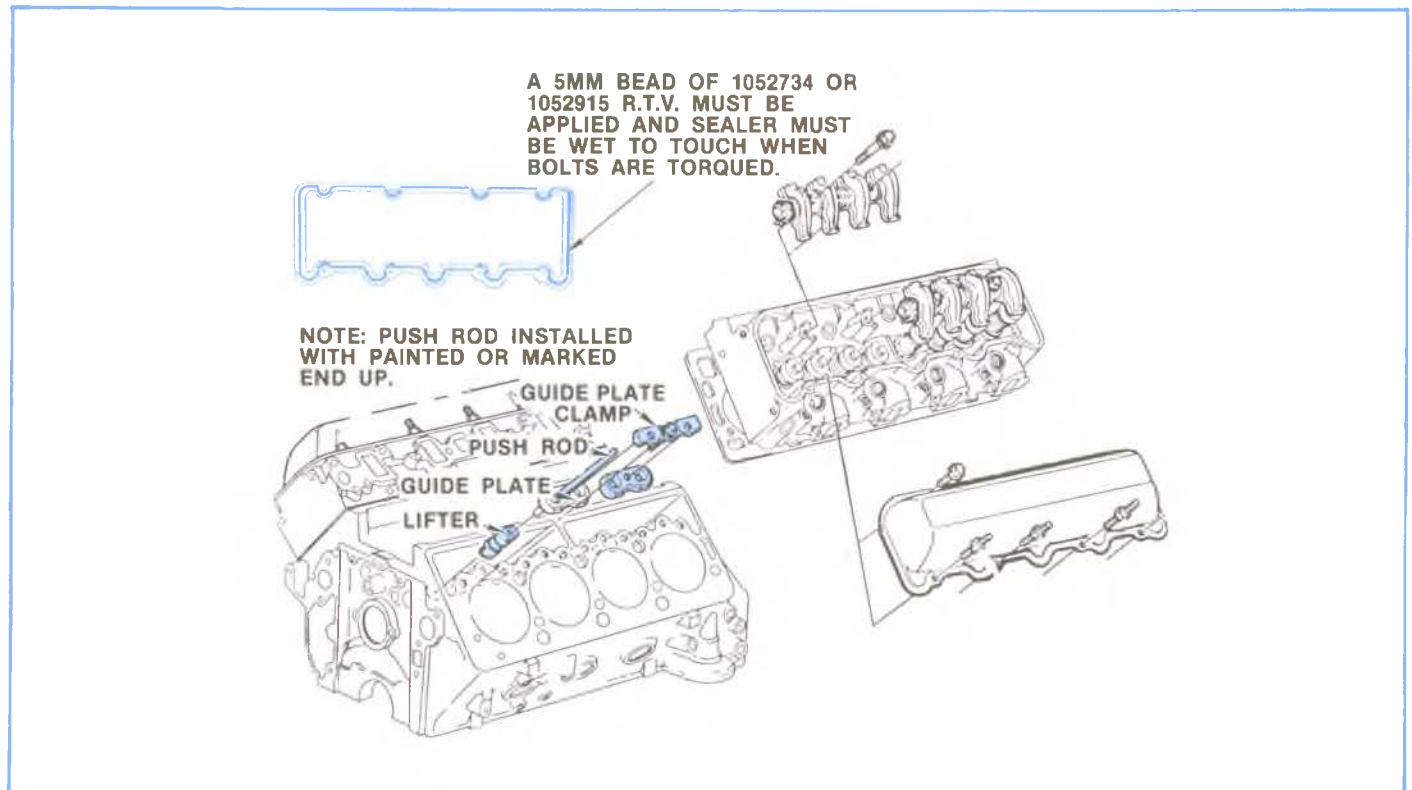

Figure 2-6, Valve Train.
Roller hydraulic lifters are used to reduce the amount of friction between the valve lifter and the camshaft lobe. See Figure 2-6. A requirement with the use of a roller lifter is a positive guide device to insure the roller will track consistently. First; the line of action of lifter motion is offset from the camshaft center line, to reduce the skewing motion of the lifter during the cam opening and closing. Second, a lifter guide plate is used, to restrain lifter motion to less than two degrees about its axis. A guide plate clamp holds 2 of the guide plates in position. The clamp is a self-contained bolt attached to a bracket. And there are 4 lifters and 2 guide plates to every guide plate clamp. 1982-1983 guide plates are stamped steel. 1984 and later guide plates are sintered iron.
1. Assemble ball check spring and retainer into plunger, (Figure 2-6). Make sure retainer flange is pressed tight against bottom of recess in plunger.